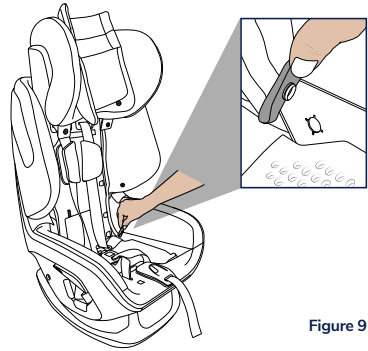

Figure 9
Step 2. Detach press studs (Figure 9) and release fabric around the plastic cover